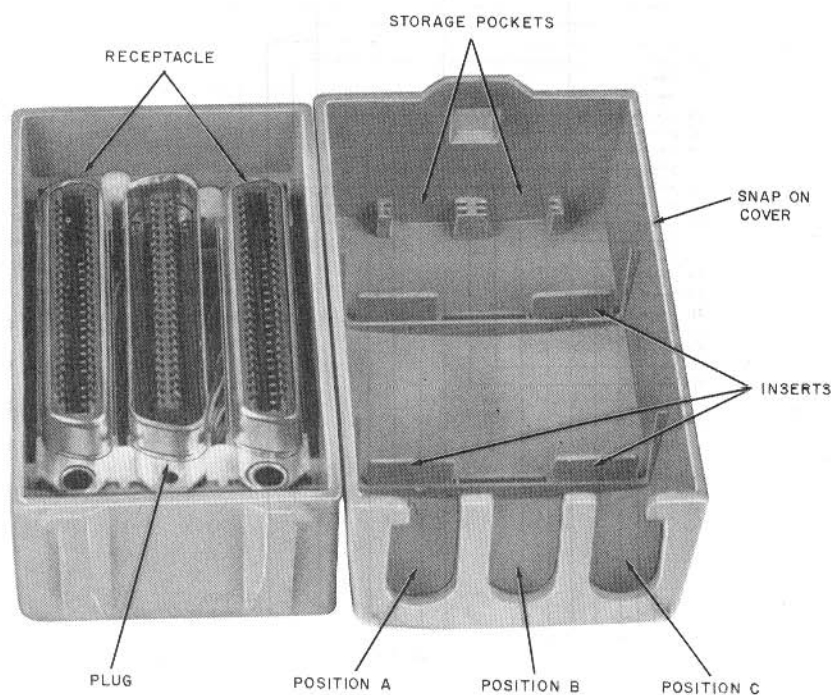

Fig. 20—KS-19252, List 1 3-Way Bridging Adapter (Current Model)
- (1) The List 1 (C-P-C) adapter is arranged to accommodate two low hoods and one high hood. Four inserts are used and are placed in the outside pocket positions (A and C) of the cover. See Fig. 20.
- (2) To convert a List 1 adapter to accommodate two high hoods, remove the inserts from A or C position and place in cover storage pocket.
- (3) In any assembly where a high hood is used, the inserts are not used in that receptacle position and should remain in the storage pocket.